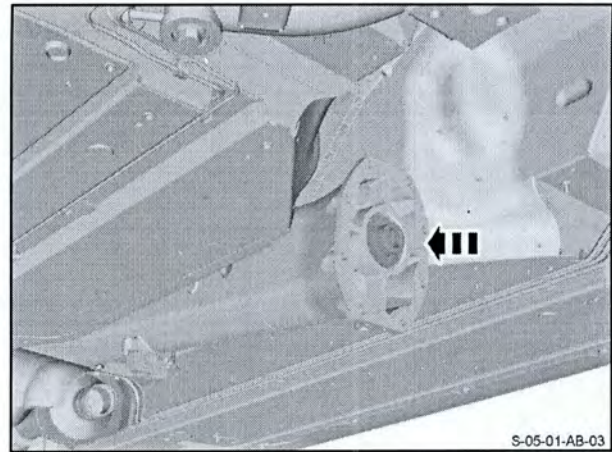

Figure 42
83. Carefully install the propeller shaft into the torque tube and engage the splines of the propeller shaft in the clutch (refer to Figure 42).